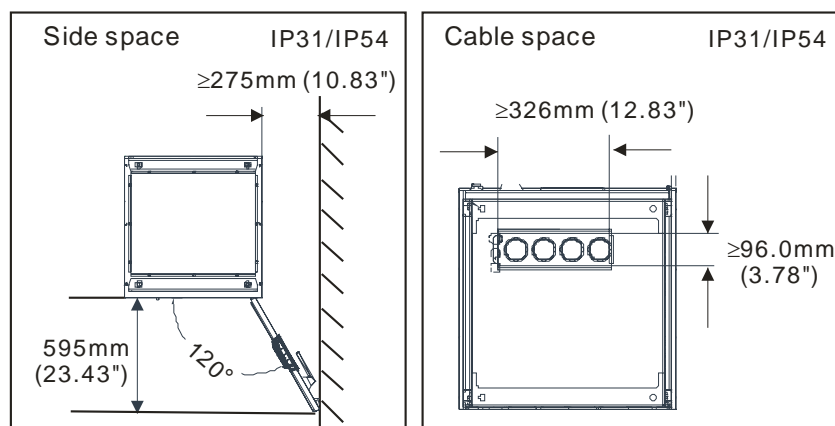
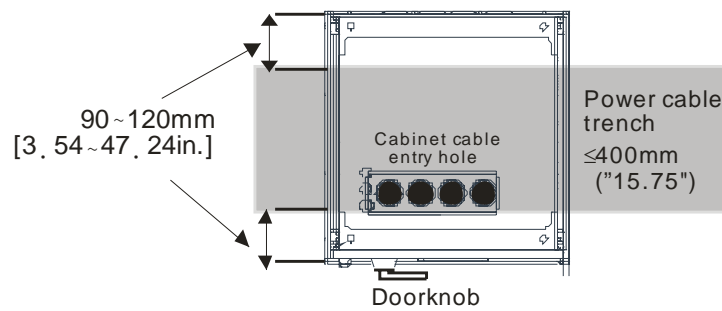

Figure 2-1b
Figure 2-2
4. Cable space: When cable trenches are used (as shown in Figure 2-1b), be careful of where the cabinet is being installed. The "Cabinet cable entry hole" must be right above the cable trenches with a distance of no greater than 400 mm (15.75 inches), as shown in Figure 2-2.
- (A) At the location where the cabinet is going to be placed, some spaces must be reserved to support the cabinet. Reserved supporting spaces are shown in figure 2-2, please keep the distances at 90 to 120 mm (3.54 to 4.72 inches) to ensure the cabinet is installed securely.